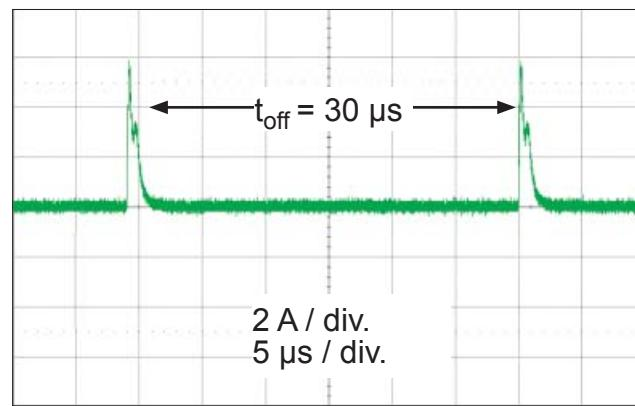

Figure 7. Short-to-load event
**Shorted Load** During a shorted load event, the current path is through the sense resistor. During this fault condition the device will be protected, however, the fault will not be latched. When the full bridge turns on, the current will rise and exceed the overcurrent threshold. After the blank time,  $t_{BLANK}$ , of approximately 1  $\mu$ s, the driver will look at the voltage on the SENSEx pin. The voltage on the SENSEx pin will be larger than the voltage set by the REF pin, and the full bridge will turn off for the time set by the ROSC pin. Figure 7 shows a shorted load condition with an off-time of 30  $\mu$ s.